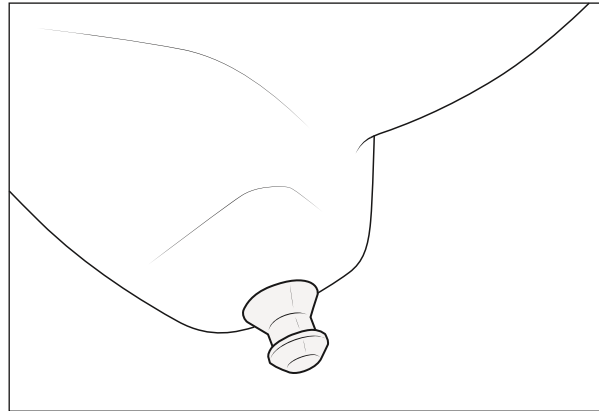

Figure 13
E. Attach Insulator Pin to AEV lower air box (fig. 13).